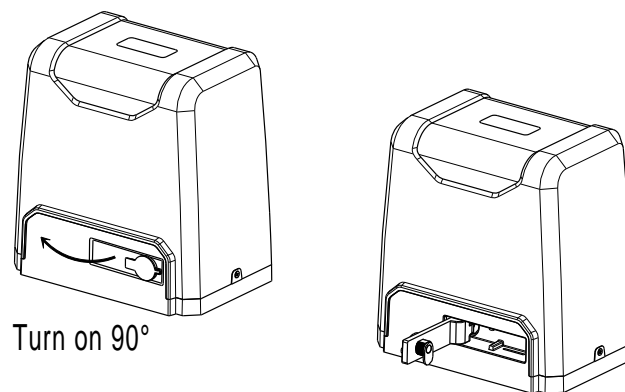

Figure 5
- Please unlock the main engine before installation, the unlock method is: take out the key cover, insert the key, and open the manual release bar till it rotates by 90° as shown in Figure 5. Then turn the output gear and the gear can be rotated easily;